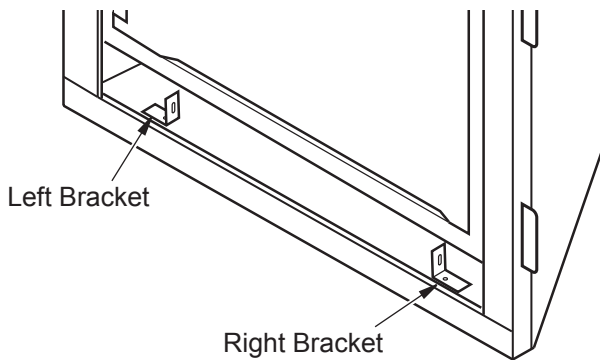

Figure 2 - Installing Support Brackets
2. Attach 2 support brackets as shown in Figure 2.